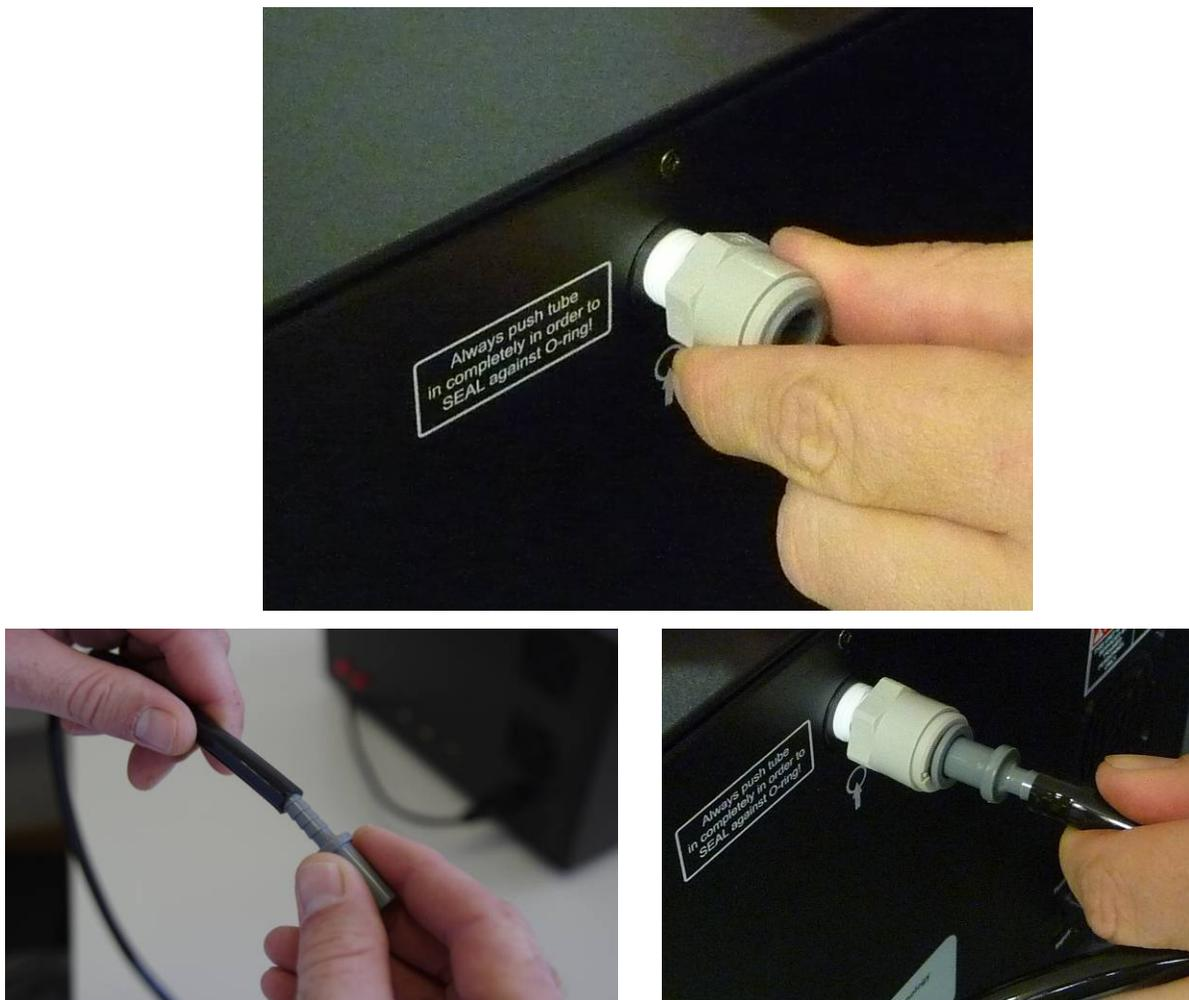

Figure 7. Connecting the sampling line.
1. Thread the supplied fitting onto the Sample Inlet port on the rear panel of the Aethalometer (Figure 7, top). Use Teflon tape on the thread.
2. Fit the supplied barbed connector into the end of the black conductive sample tubing (Figure 7, left).
3. Insert the connector into the fitting on the rear panel of the instrument (Figure 7, right).